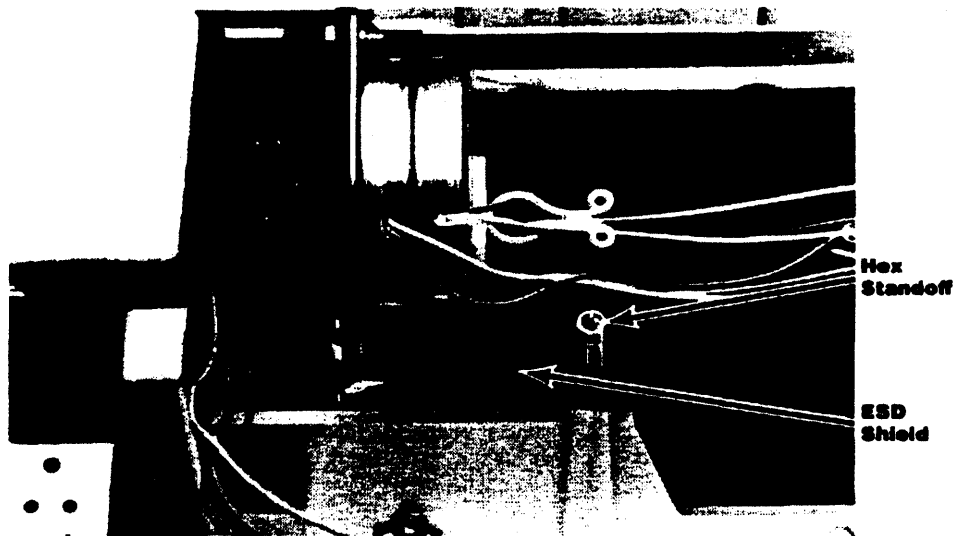

Figure 6-10. ESD Shield
12. Remove the 5.5-mm hex standoff and washer, and carefully remove the ESD shield from the standoff. (See figure 6-10.)
Reassembly Notes: Make sure the tab on the ESD shield is back in place before reinstalling the printer switch panel. The shield wraps up in a circular fashion around the bottom of the panel. Make sure the dull side of the shield is toward the outside and faces the 5.5-mm standoff (see figure 6-10).